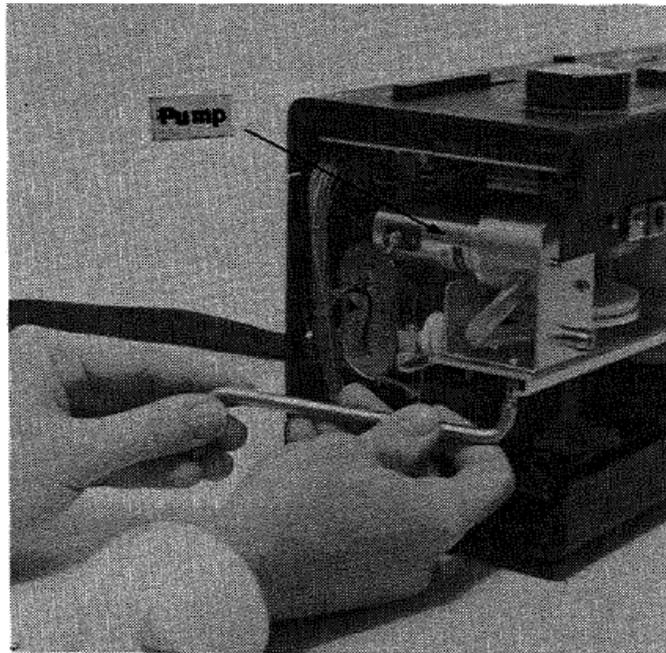

Figure 34. Removing the screws that connect the bracket to the PIEZOBALANCE
Step 2. Using the offset screwdriver, remove the two screws that connect the pump bracket to the PIEZOBALANCE (Figure 34).